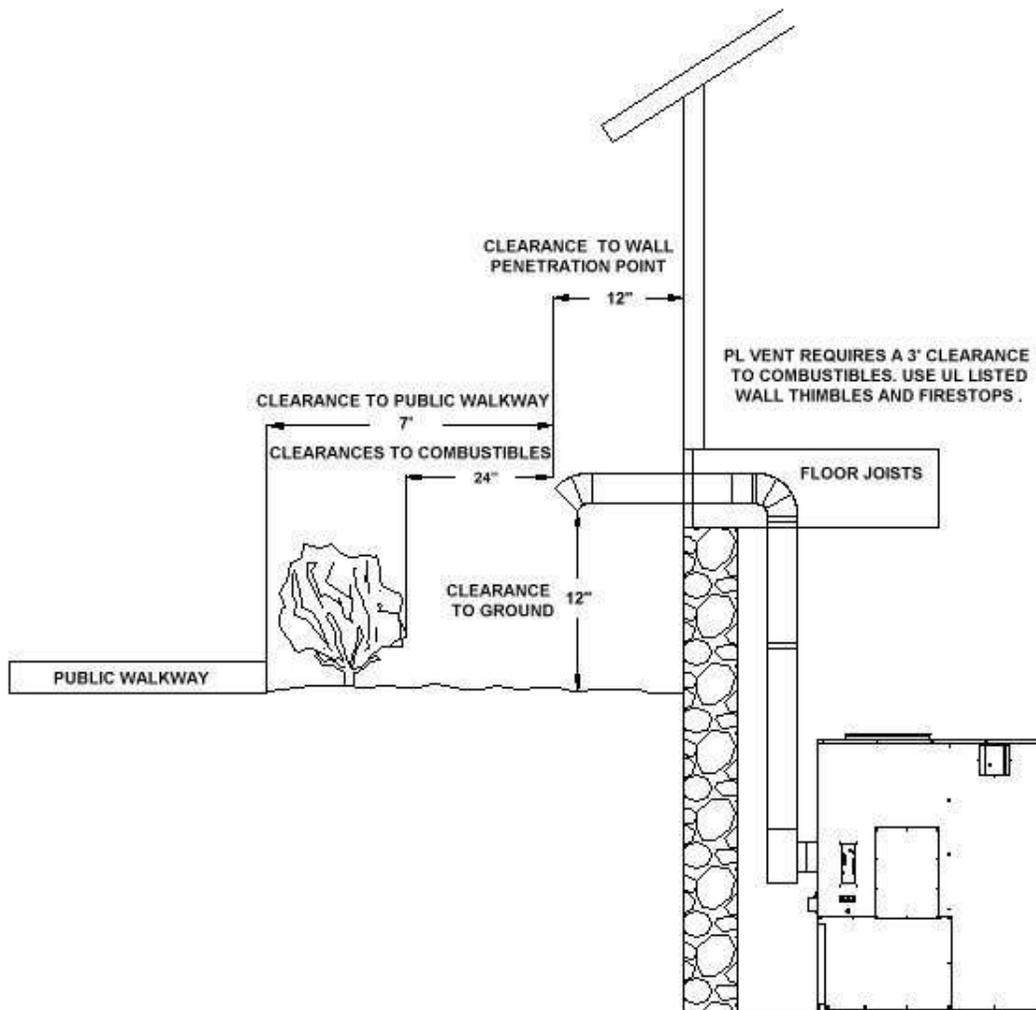

Figure 5
2. It is not recommended to run vertical venting outside the heated environment where the furnace is installed. Running a venting system in a cold environment may cause the flue temperatures to cool down too much for adequate drafting. See figures 5 & 6 on pages 15 & 16.